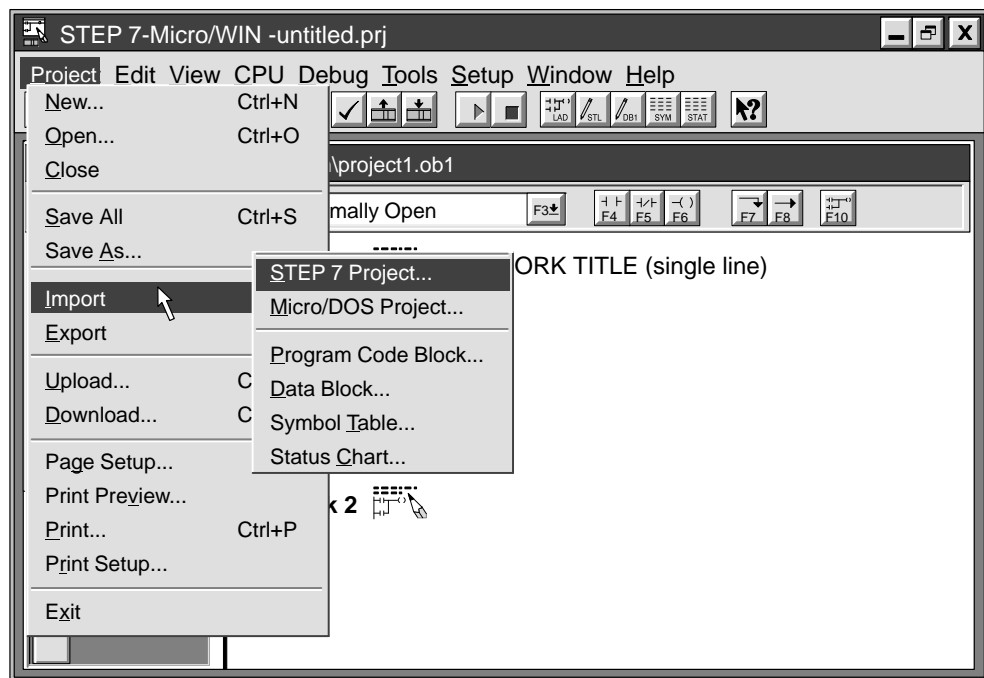

Figure E-1 Opening a STEP 7 Project from STEP 7-Micro/WIN
2. Use the menu command **Project ► Import ► STEP 7 Project**, as shown in Figure E-1.
The user program and other elements (data block, status chart, and symbol table) open under the STEP 7-Micro/WIN project. See Figure E-1.